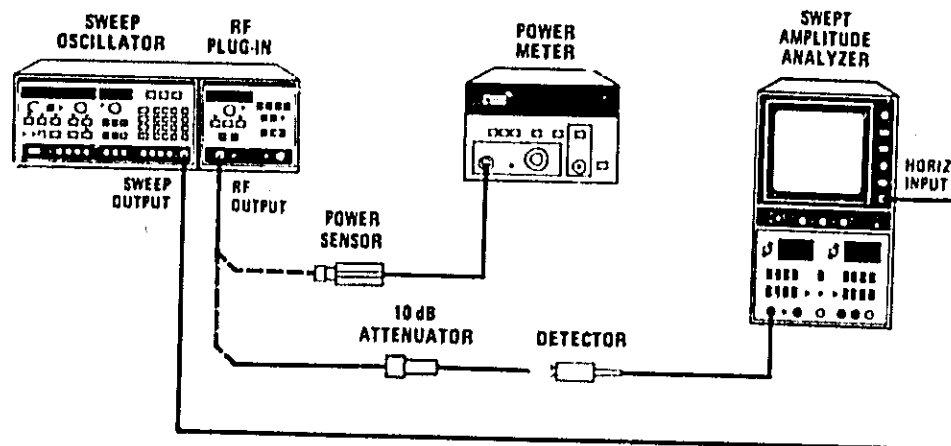

Figure 5-21. Power Calibration Test Setup
1. Connect equipment as shown in Figure 5-21, with the 8755C monitoring the RF output. Select 8350A  $\square$  MOD. Observe the full band trace and select a frequency where the power level is approximately in the center of the power variation range. Select CW mode at that frequency. Set POWER for a front panel indication of +0 dBm.